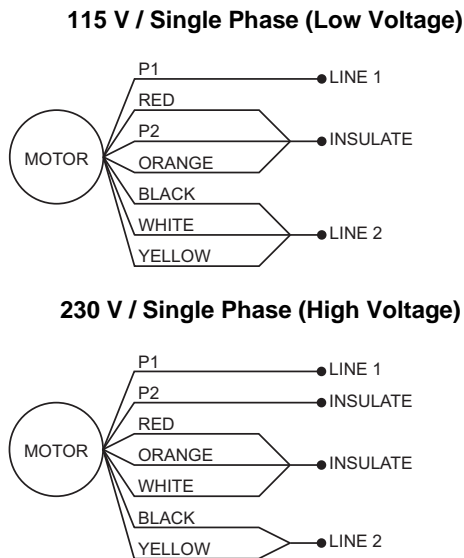
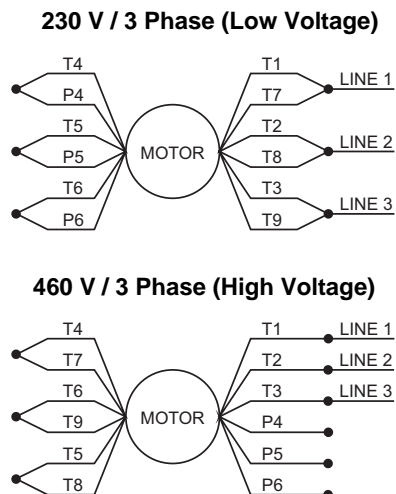
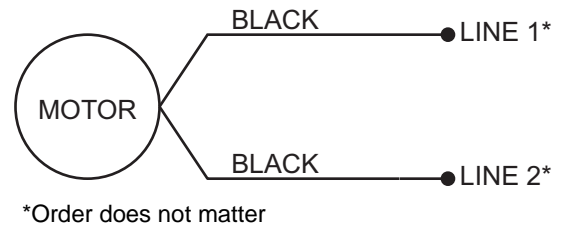

FIG. 9 Electrical Connections for Single Phase Pump
FIG. 10 Electrical Connections for 3 Phase Pump
FIG. 11 Electrical connections for Single Phase Pump
2. Connect wires and related conduit (user-supplied) rated per local electrical code. See FIG. 9 and FIG. 10 for wiring diagrams, and **Technical Specifications**, on 60, for current ratings.
2. Connect wires and related conduit (user supplied) rated per local electrical code. See FIG. 10 and FIG. 11 for wiring diagrams, and **Technical Specifications**, on page 58, for current ratings.